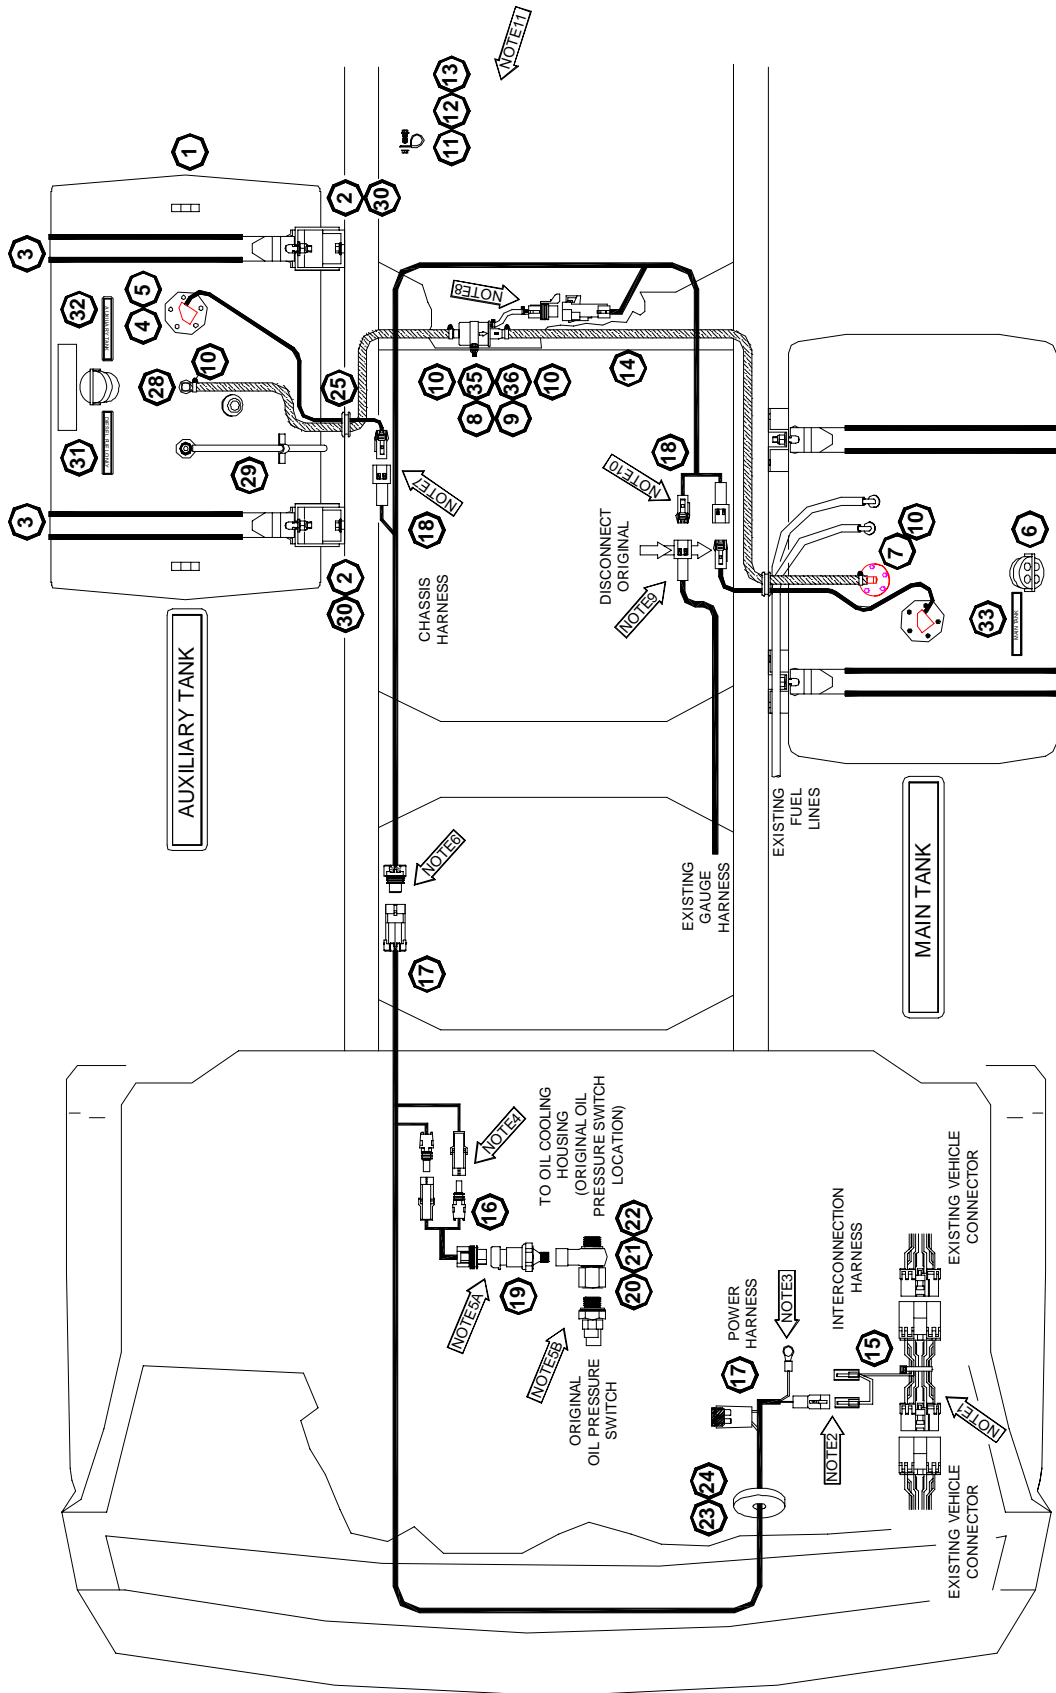

FIGURE 9
Before beginning installation, refer to Figure 9 for general system layout. Familiarize yourself with the system components and check that you have all items required to complete the assembly.
Wire Harness and Electrical Connections (See Figure 9)
- Inside the vehicle cab under the dash near the steering column locate the main harness from the ignition key switch with the black connector and carefully disconnect. Interconnect the power harness (Item #17) connectors in between the key harness and the cab harness. (See Figure 9, Note 1)
- Connect the single red wire connector from the power harness (Item #17) to one of the single red wire connectors located on the interconnection harness (Item #16). See Figure 9, Note 2.
- Route the green wire ring terminal to left side kick panel and connect to the vehicle ground bolt. See Figure 9, Note 3.
- At a location near the oil pressure switches installed earlier, connect the two green single wire connectors located on the power harness to the oil pressure harness (Item #16). See Figure 9, Note 4
- Connect the two-position oil pressure harness (GREEN and BLACK wire) (Item #16) connector to the new oil pressure switch (Item #19), Note 5A. Make sure the connector is securely mated to the switch. Connect the original oil pressure harness to the existing oil pressure switch. Make sure the connector is securely mated to the switch. See Figure 9, Note 5B.
- Continue routing the power harness to the rear of the vehicle towards the auxiliary tank. Connect the end of the power harness to the chassis harness (Item #18). Make sure the connectors are securely mated. Continue routing the chassis harness to a location near the auxiliary tank. See Figure 9, Note 6.
- At the auxiliary tank, route the sender harness through the frame grommet (Item #25) and connect this two pin connector to the two pin connector on the chassis harness (YELLOW and BLACK wire). Make sure the connectors are securely mated. See Figure 9, Note 7.
- Continue routing the chassis harness toward the cross-member that mounts the transfer pump. At the transfer pump, connect the 5-pinned connector on the chassis harness to the transfer pump connector. Make sure the connectors are securely mated. See Figure 9, Note 8.
- Continue routing the end of the chassis harness toward the main tank. At the main tank follow the sender harness through the frame to the existing vehicle harness. Disconnect the 2-pinned (YELLOW and BLACK wire) sender connector from the existing vehicle harness. See Figure 9, Note 9.
- Finally, connect the (2) two pinned (BLACK and YELLOW/Red) of the chassis harness (Item #18) to the main tank sender harness and the existing vehicle harness. Make sure the connectors are securely mated. See Figure 9, Note 10.
- Secure hose to frame rail as required with clamps and hardware (Items #11, 12 & 13). See Figure 9, Note 11.
- Peel and stick the system instruction label (Item #34) on the driver side interior door. See Figure 9, Note 12.